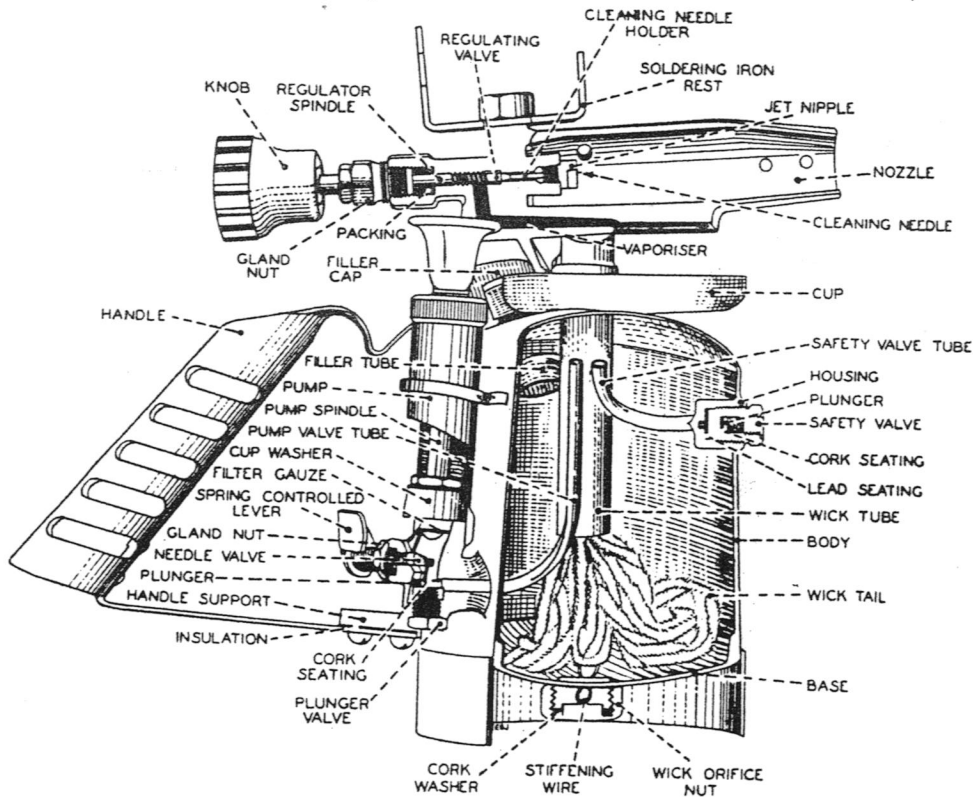

FIG. 4.—LAMP, TORCHBLOWING, No. 2
12. *Lamp, Torchblowing, No. 2.*—Fig. 4 shows a sectional view of the lamp and it can be seen that the construction resembles that of the No. 1. The vaporizing chamber, however, is of different construction, consisting of a passage formed in the base of the barrel of the nozzle. The body is tested to withstand a pressure of 200 lb. per sq. in. The approximate size is 7 in. high and 10½ in. long.